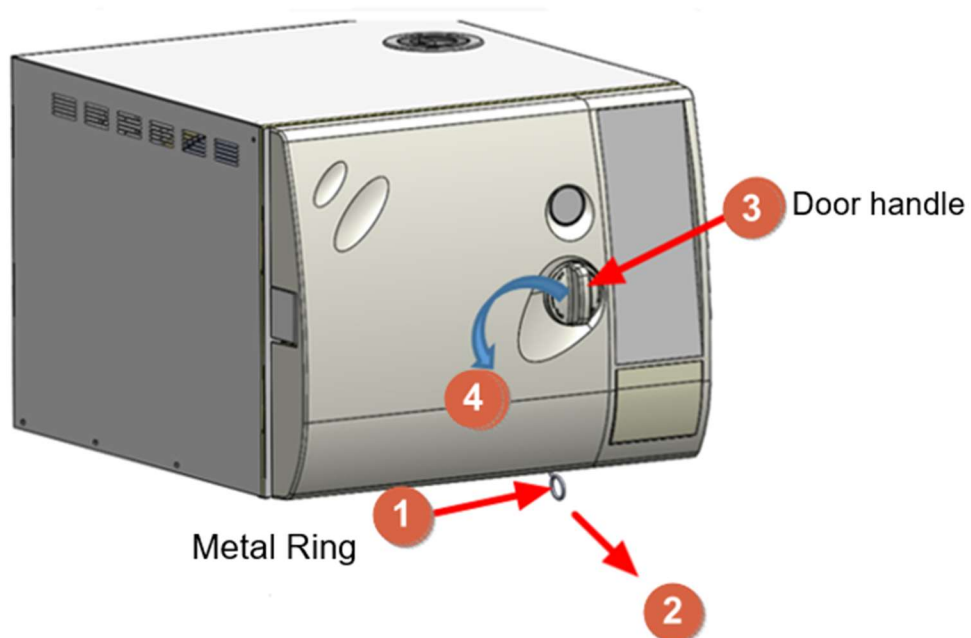

Figure 33
**WARNING:** Always check the pressure before opening the door. Do not attempt to open the door if the pressure is not at zero (0).
The door releasing mechanism is located beneath the front door as shown in ① of Figure 33. Use left hand to pull the metal ring towards ② (front position), at the same time use right hand to grab “Door handle” ③ of Figure 33, turn “Door handle” ③ counter-clockwise to 90 degree (④), then the door can be opened.